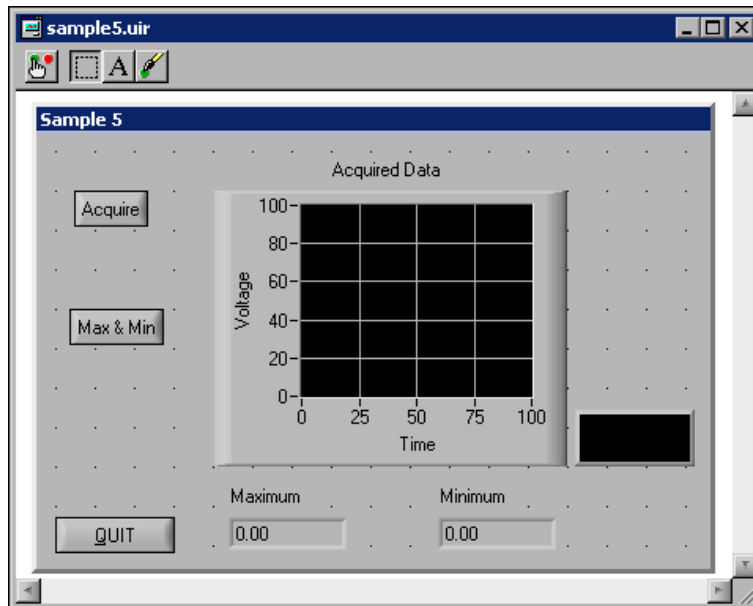

Figure 7-1. Sample User Interface
2. Without closing the `sample5.c` source code, open `sample5.uir`. Your goal is to modify the `.uir` to match the user interface shown in Figure 7-1.
- Position the two new controls on the user interface to match those shown in Figure 7-1.